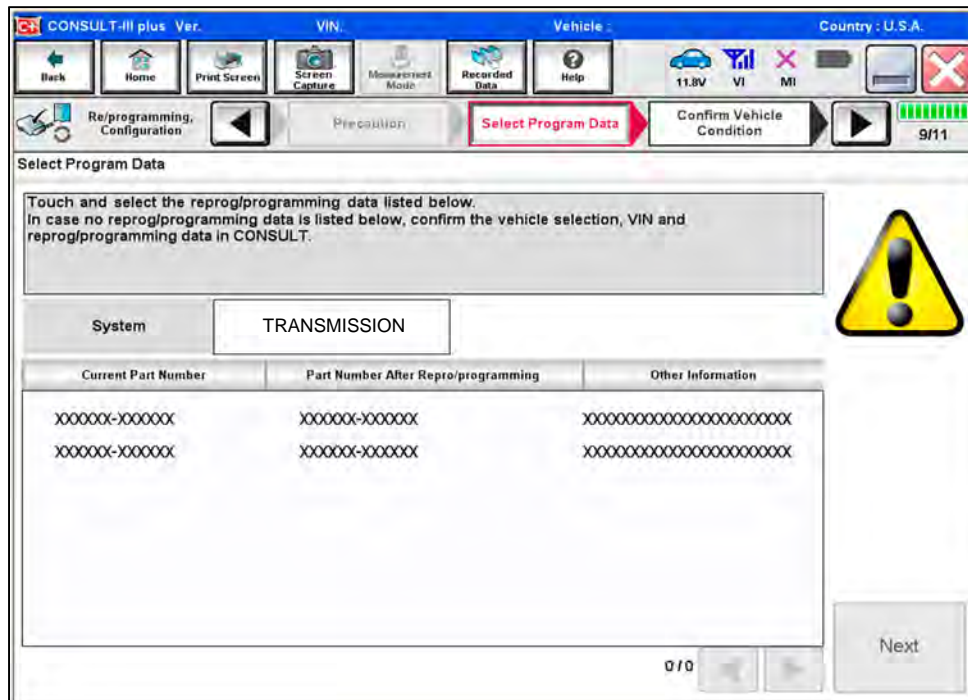

Figure 23
32. Follow the on-screen instructions to navigate C-III plus to the screen shown in Figure 23 and reprogram the TCM.
- If more than one new P/N is available, the screen in Figure 23 displays.